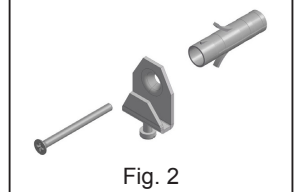

Fig. 2
- a) 2 levelling hooks that fasten on with the supplied expansion plugs (Fig. 2)
- 7) Hang the hood on the fixing system (fig. 2 and 3) and level it using the adjustment screws ( fig.2 ).